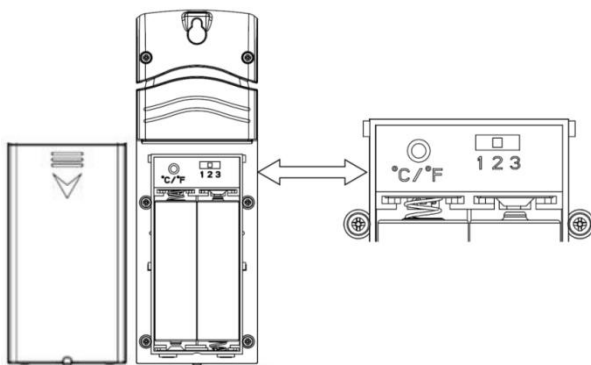

Figure 4
3. **BEFORE** inserting the batteries, locate the slide switches on the inside cover of the lid of the transmitter(Figure 4).